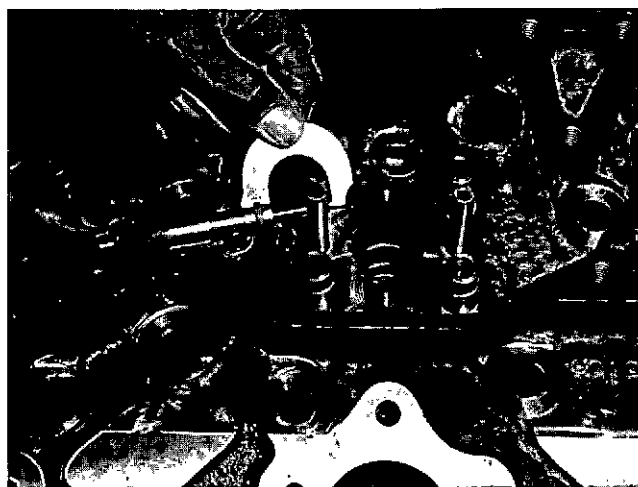

Fig. 2-1-5, V40215. Measure crosshead guide
1. Check guide Outside Diameter with micrometers. Fig. 2-1-5. See Table 2-1-1 for worn replacement limits.